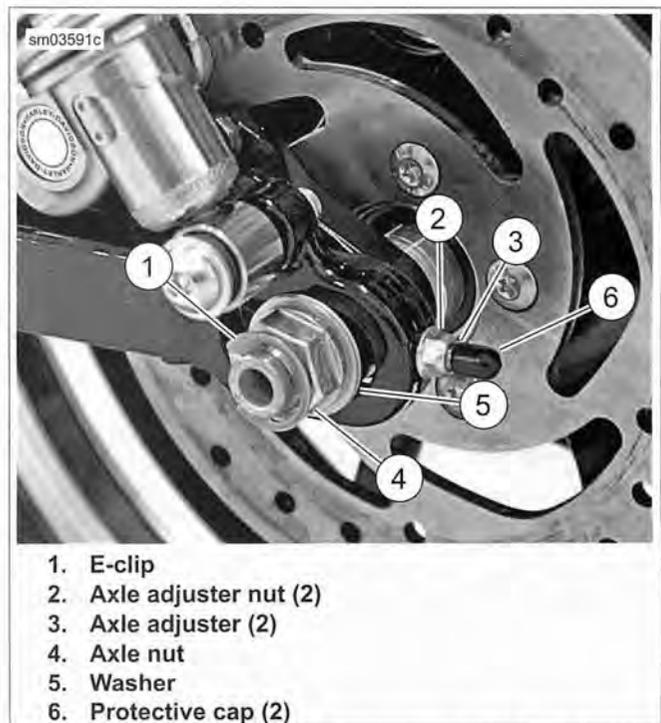

Figure 1-53. Drive Belt Adjustment: XL Models
2. See Figure 1-53. Remove and discard E-clip (1) and loosen rear axle nut (4).
1. See Figure 1-53. Remove and discard E-clip (1).
2. Loosen rear axle nut (2).
3. On side of rear fork that has longer distance from pivot bolt to axle center, turn nut (2) on axle adjuster (3) counterclockwise to shorten distance. Adjust axle until left and right side alignment measurements are equal.